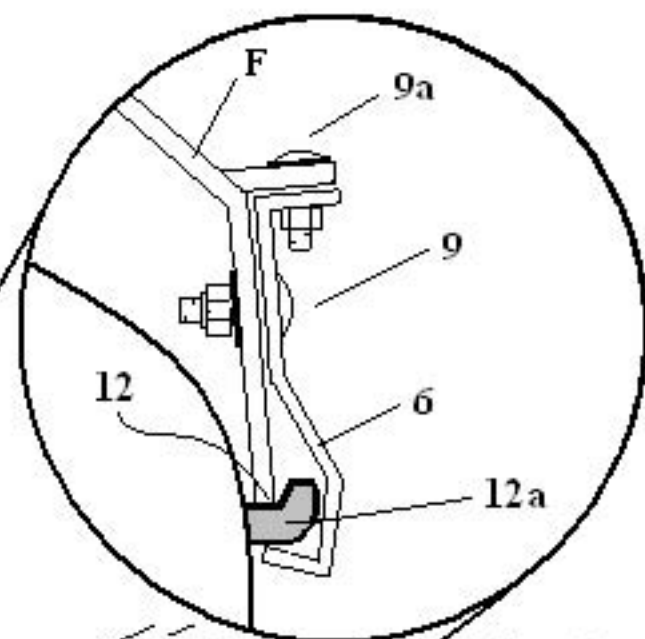
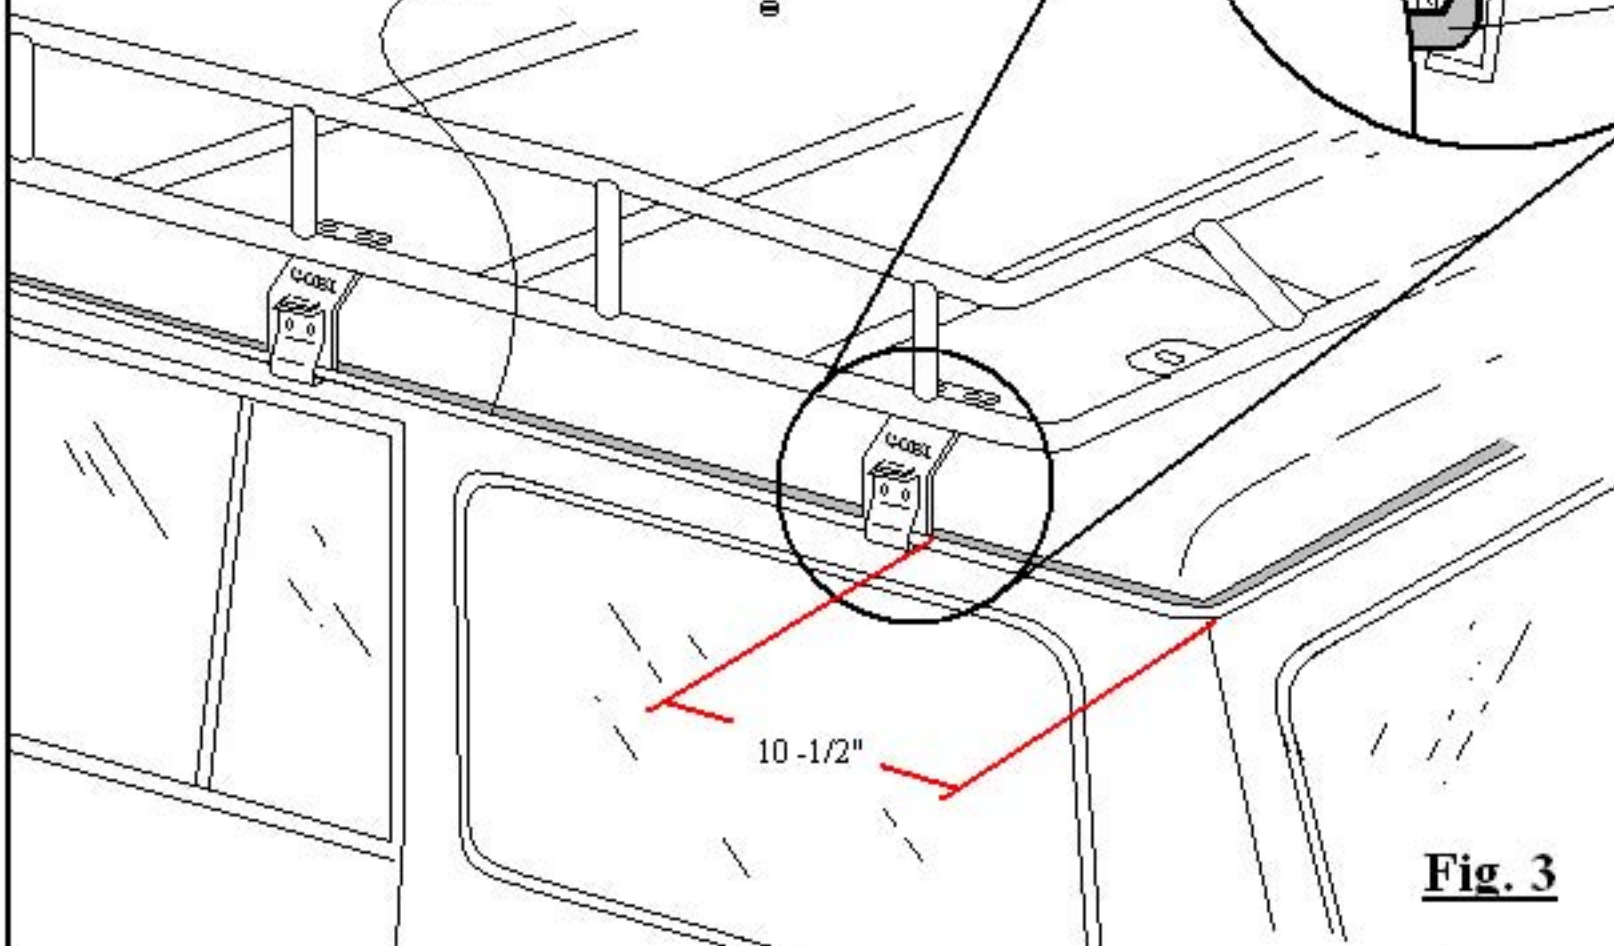

Fig. 2
Fig. 3
- 4- Refer to page 6 Fig. 2 and fully loosen screws (9a) and (9) then with the help of two to three more persons lift the roof rack onto the vehicle gutter (12) as shown in Fig. 3. Make sure as you set the support brackets "F" into the vehicle gutter (12) that you move pinch plates (9) out from the inside of the gutter. Only support bracket "F" must rest onto the gutter shelf as shown in Fig. 2. Position the rear of the roof rack approximately 10 1/2" (27m) from the rear of the vehicle gutter as shown in Fig. 3. After the roof rack is resting properly in the vehicle's gutter (12) position pinch plate (6) so that it wraps around the underside of the gutter lip (12a) as shown in Fig. 2. Then snug down screws (9) and tighten screw (9a) to pull up pinch plate (6) against the underside of gutter lip (12a) as shown in Fig. 2. Once pinch plate (6) has been tightened to prevent upwards movement of the roof rack fully tighten screws (9) to prevent any movement of the pinch plate and roof rack during transport. Continue the same procedure to the other seven support brackets "F". After all screws (9) have been tightened go back and retighten all screws (9a) to prevent loosening during use.